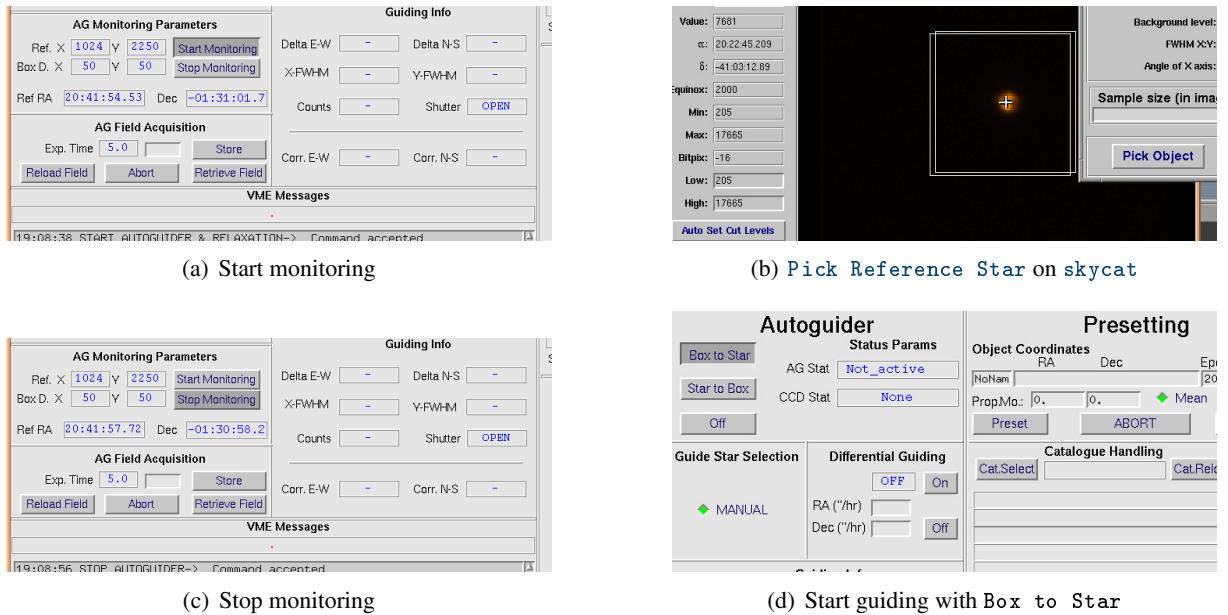

Figure 6.3: Fast guiding acquistion with WFI
A graphical outline of the procedure is given in Fig. 6.3, p. 59. Stopping monitoring and picking reference star can be performed in any order.
- B1. Click **Start monitoring** (Fig. 6.3(a), p. 59)
- B2. Click **Stop monitoring** (Fig. 6.3(c), p. 59)
- C2. Click on the star in the **skycat** window (Fig. 6.3(b), p. 59).
- D1. Activate the guiding (Fig. 6.3(d), p. 59)